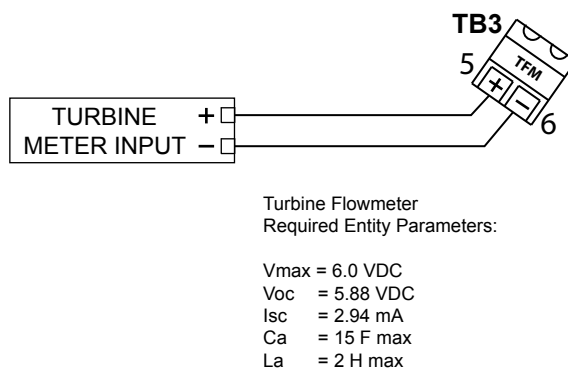

Figure 2.8—Turbine flowmeter input wiring diagram
3. If a turbine flowmeter input will be used to indicate volume, connect the signal cable to terminal block TB3. Route the cable through a cord grip and tie a loose knot in the cable or install a cable tie inside the enclosure, allowing enough cable length to connect the wires to the TB3 terminals. See Figure 2.8, page 13.